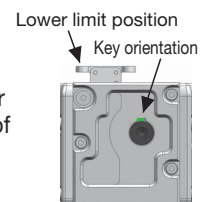

Figure 3
13. If the ZCA is installed using the bottom surface of the drive section, then the keyway of the input shaft will face almost perfectly upward at the stroke lower limit (see Figure 3). However, if synchronized, a small amount of displacement will occur due to individual differences in backlash and so on. To prevent this, install a separate mechanism that adjusts the phase. Phase misalignment will result in increased load per ZCA unit, leading to chain buckling, shaft damage, and other problems. When aligning phase, use a Tsubaki Power-Lock® or similar item, and align the phase with the height of the fitting when the Zip Chain is at its lowest position.